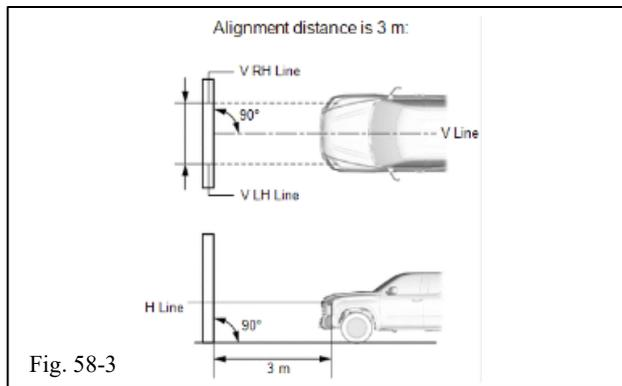
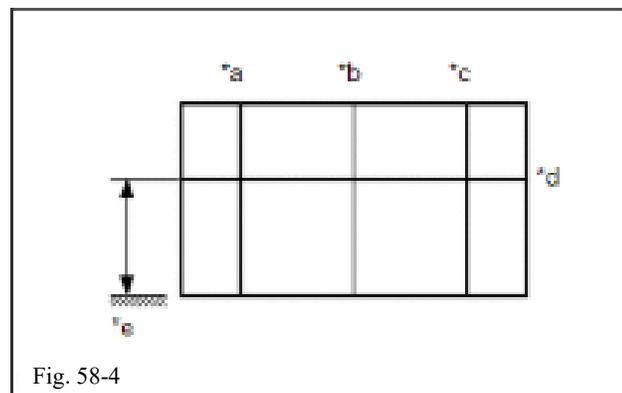

Fig. 58-3
Fig. 58-4
- (4) Make sure that the vehicle is on a level surface (Fig. 58-3).
- (5) Bounce the vehicle up and down to settle the suspension.
- (d) Set the screen as shown in the illustration (Fig. 58-4).
- (e) Draw base lines (H, V LH, and V RH lines) on the screen as shown in the illustration (Fig. 58-4).